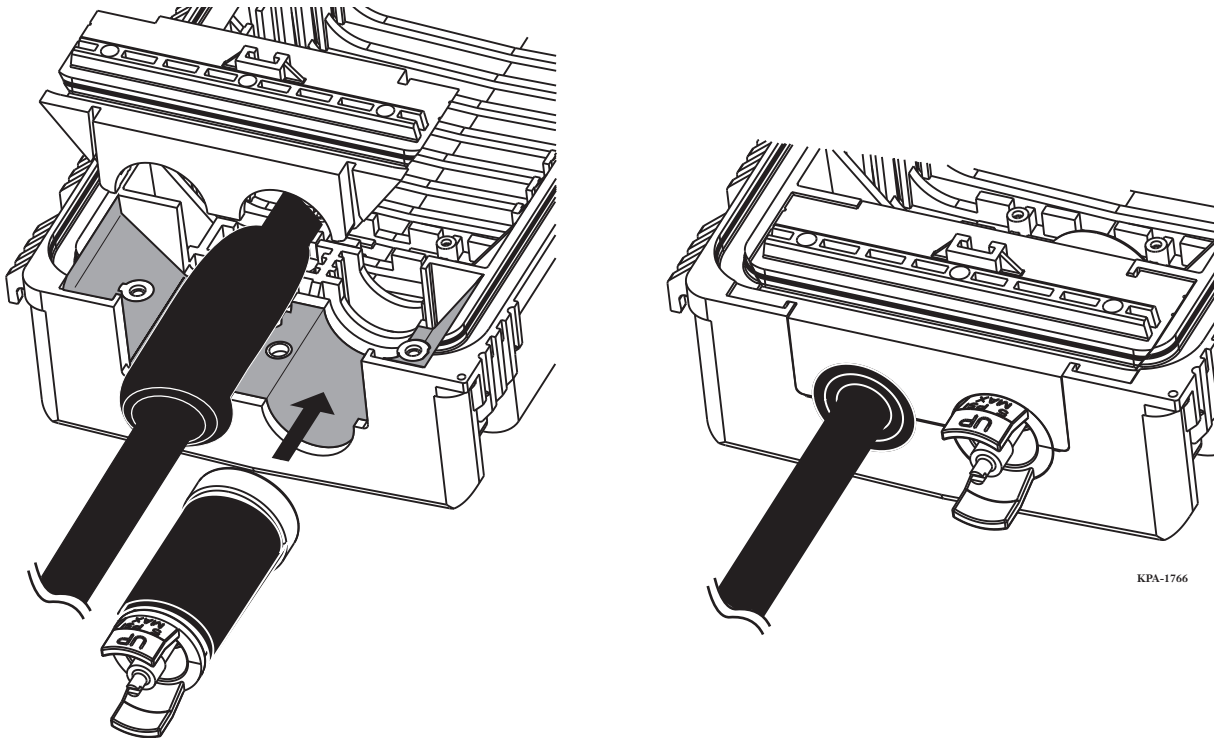

Figure 15
**Step 2:** Install the prewrapped dummy plug with flash valve into the other open port (Figure 15).